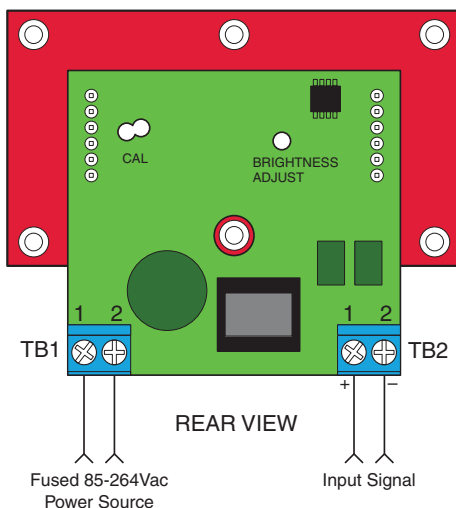

Figure 1. DMU-30ACV wiring diagram
**3. Power Supply Polarity, Fusing, Wiring and Grounding:** The power supply inputs (TB1-1 and TB1-2) on DMU-30ACV voltmeters are not polarity sensitive, that is, they have no "AC LO" or "AC HI" designations. These units do not include or require a connection to earth/chassis ground. Refer to Figure 1 for a typical wiring diagram.